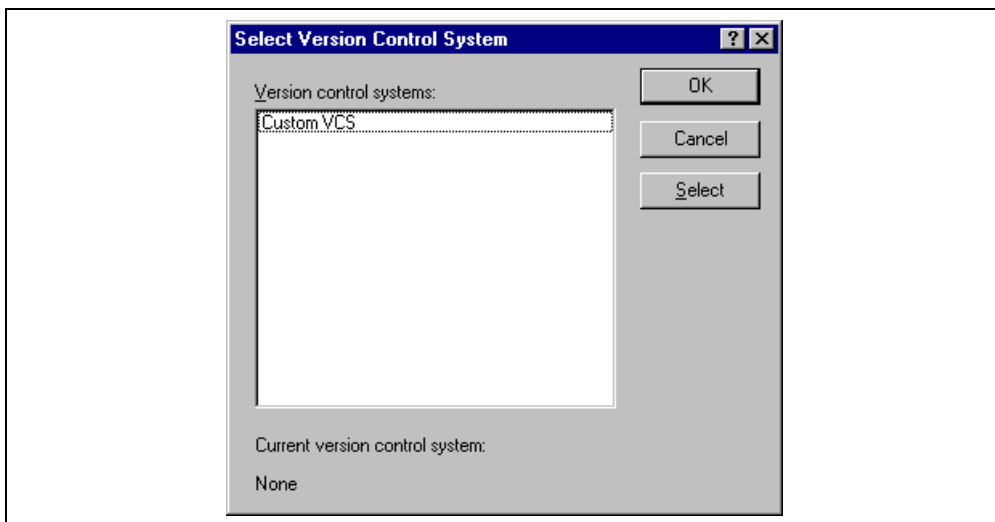

Figure 7.3: Select Version Control System Dialog
1. Select [Version Control->Select...]. The dialog shown in * MERGEFORMAT figure 7.3 will be displayed. This dialog lists all of the supported version control systems.
Note: Only those version control systems which have been installed with the HEW will appear in the “Select Version Control System” dialog * MERGEFORMAT (figure 7.3).